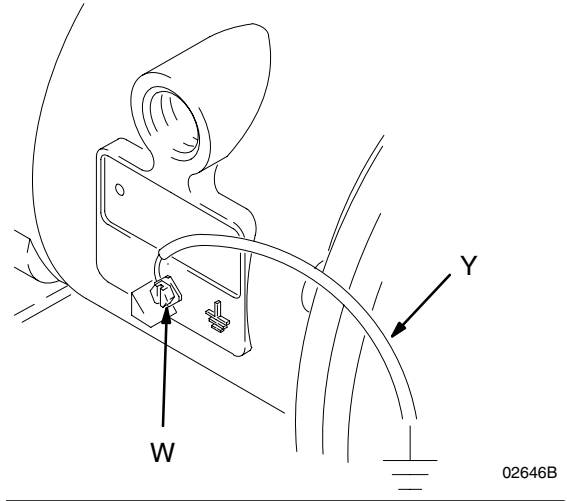

Fig. 1
When pumping conductive flammable fluids, **always** ground the entire fluid system by making sure the fluid has an electrical path to a true earth ground. See Fig. 1.
- *Air Motor:* Connect a ground wire and clamp as shown in Fig. 1. Loosen the grounding screw (W). Insert one end of a 1.5 mm2 minimum ground wire (Y) behind the grounding screw and tighten the screw securely. Connect the clamp end of the ground wire to a true earth ground. Order Part No. 819.4486 Ground Wire and Clamp.